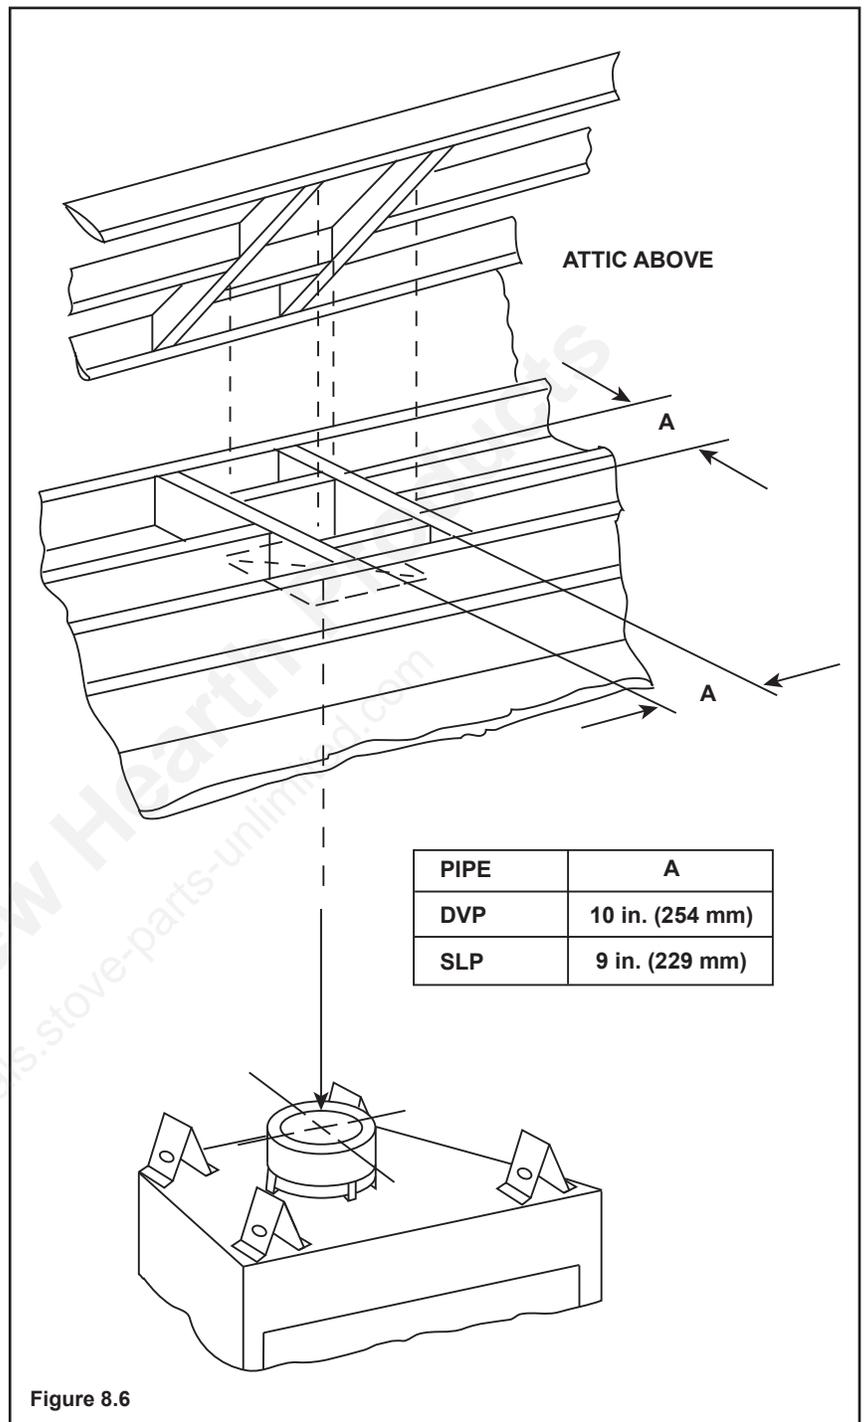

Figure 8.6
- **DVP pipe only** - Frame an opening 10 in. by 10 in. (254 mm by 254 mm) whenever the vent penetrates a ceiling/floor (see Figure 8.6).
- **SLP pipe only** - Frame opening 9 in. x 9 in. (229 mm x 229 mm) whenever the vent penetrates a ceiling/floor (see Figure 8.6).